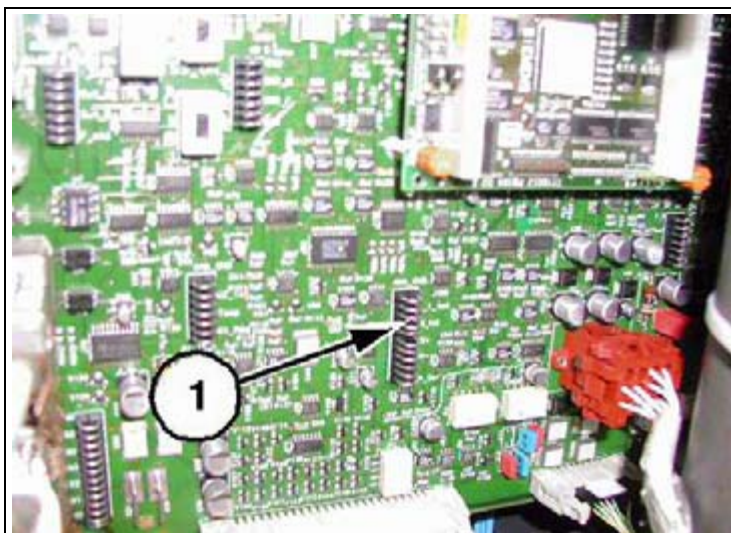

Fig. 1: Measuring points
7. Connect oscilloscope channel 1 to the test point (1/ Fig. 1 / p. 9) D21 "kV_Ist". Ground: D21 "ANA_GND".
8. Connect oscilloscope channel 2 to the test point (1/ Fig. 1 / p. 9) D21 "I_T_Ist". Ground: D21 "ANA_GND".